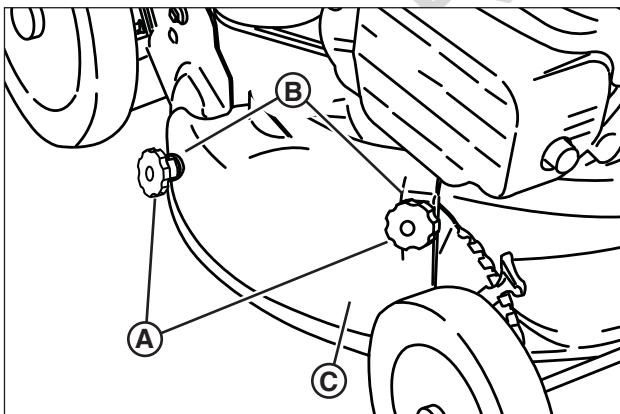

Figure 8: Removing the mulching cover
1. Remove the knob nuts (**A**, Figure 8) and internal/external tooth lock washers (**B**) securing the mulching cover (**C**) to the mower deck.